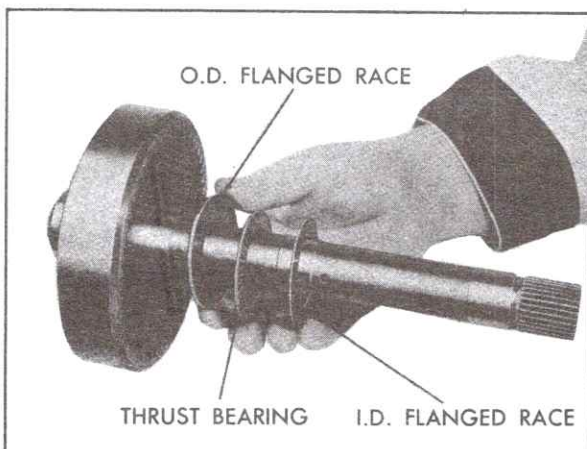

Fig. 7-168 Installing Races and Thrust Bearing on Inner Face of Rear Internal Gear
1. Install large diameter race first, with flange facing up, Fig. 7-168.